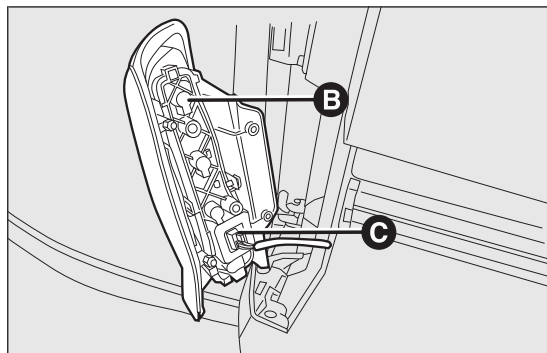
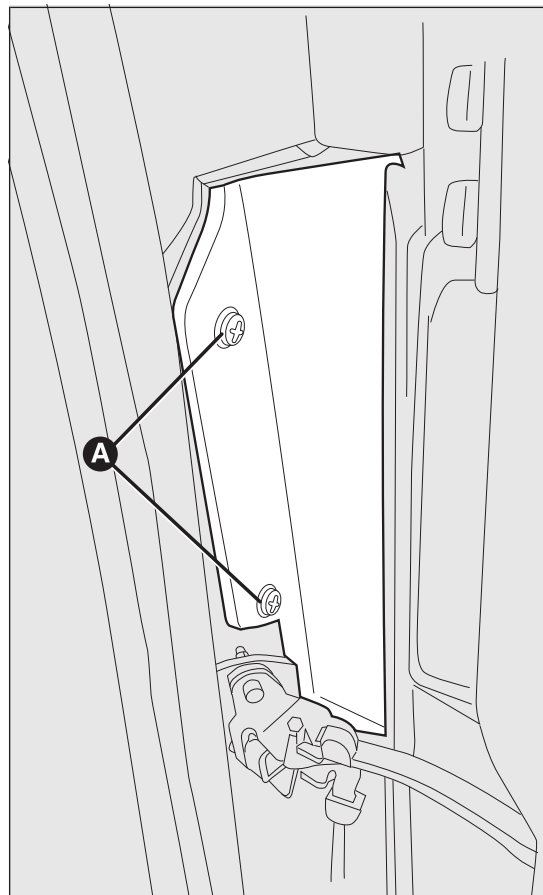

fig. 152
fig. 151
- ❑ loosen the screws A fig. 151 so as to access the light cluster B fig. 152;
- ❑ remove the connector C fig. 152.